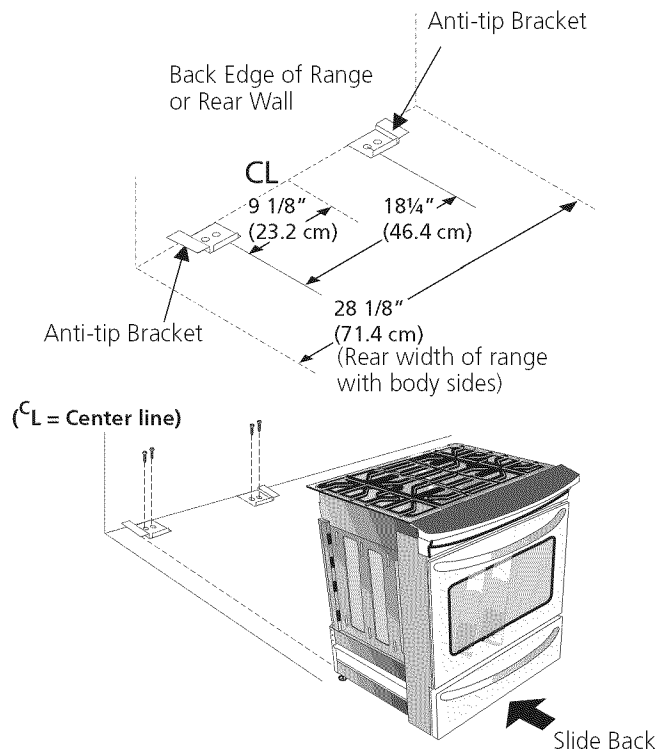

Figure 16
4. Remove template and place bracket on floor. Line up holes in bracket with marks on floor and attach with 4 screws provided. Bracket must be secured to solid floor (Figure 16). If attaching to concrete floor, first drill 3/16" (0,48 cm) dia. pilot holes using masonry drill bit.
1. Unfold paper template and place it flat on the floor with the back and side edges positioned exactly where the back and sides of range will be located when installed. (Use the diagram below to locate brackets if template is not available. (Figure 16))